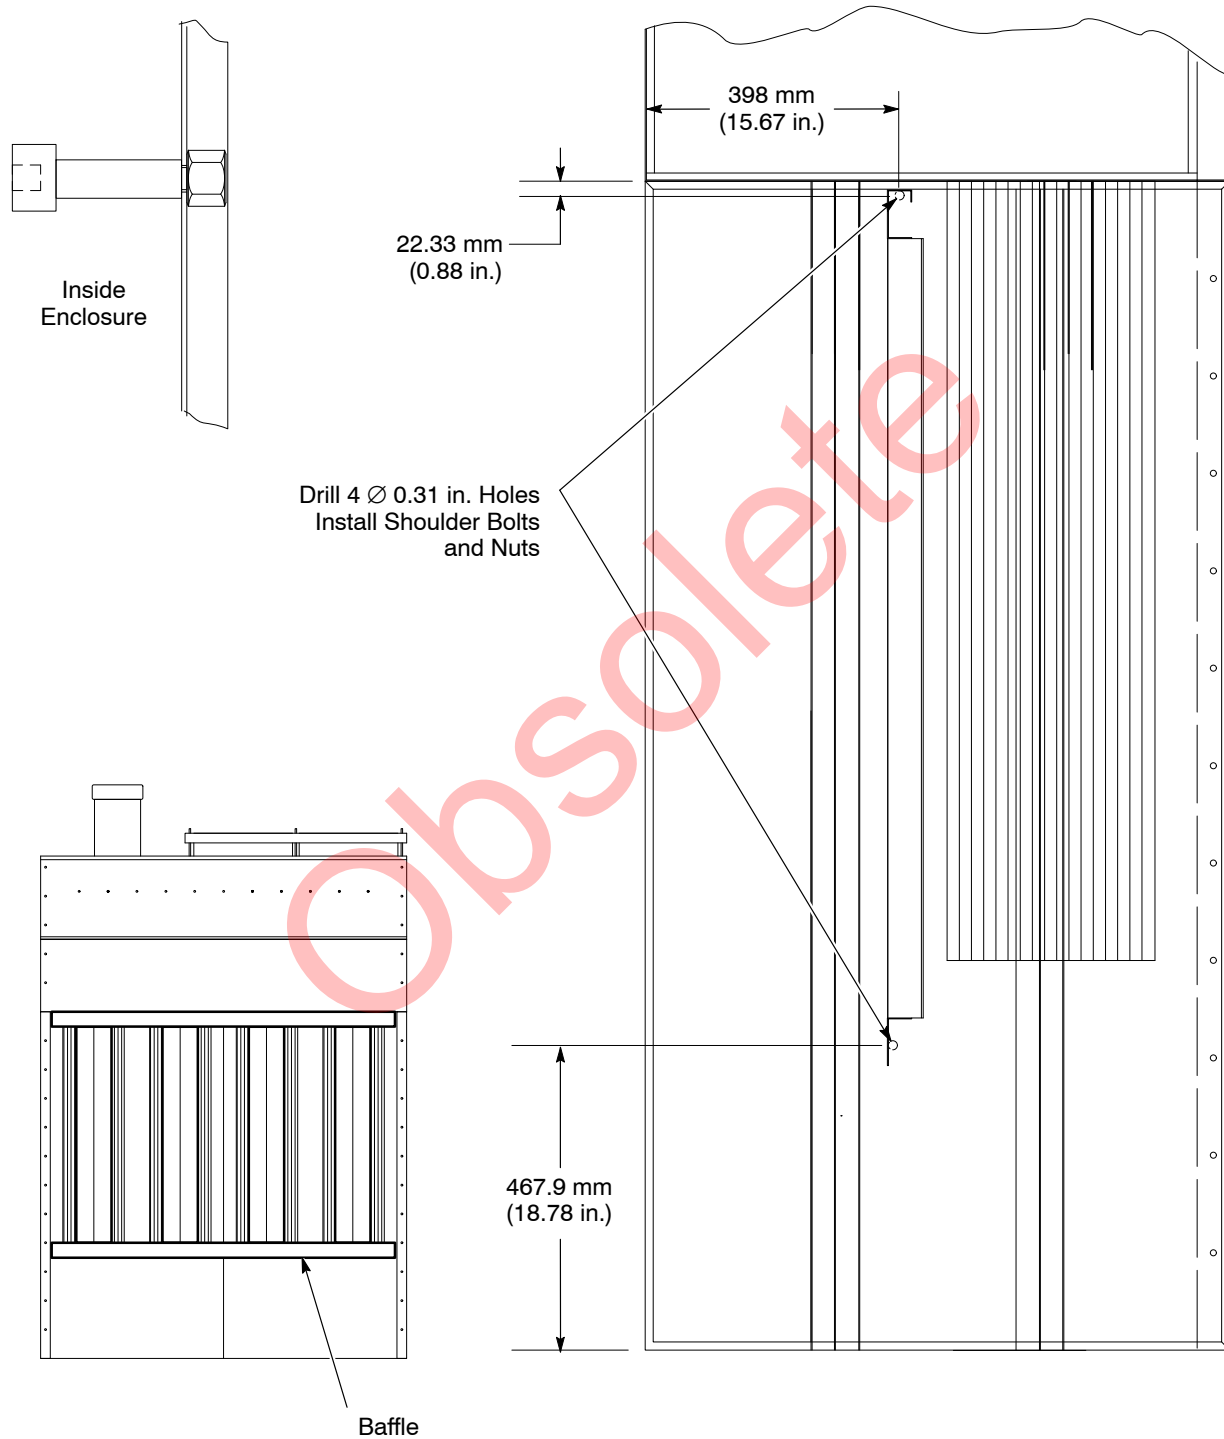

Figure 11 Baffle Installation
1. Drill four 0.31 diameter holes in the side walls as shown in Figure 11.